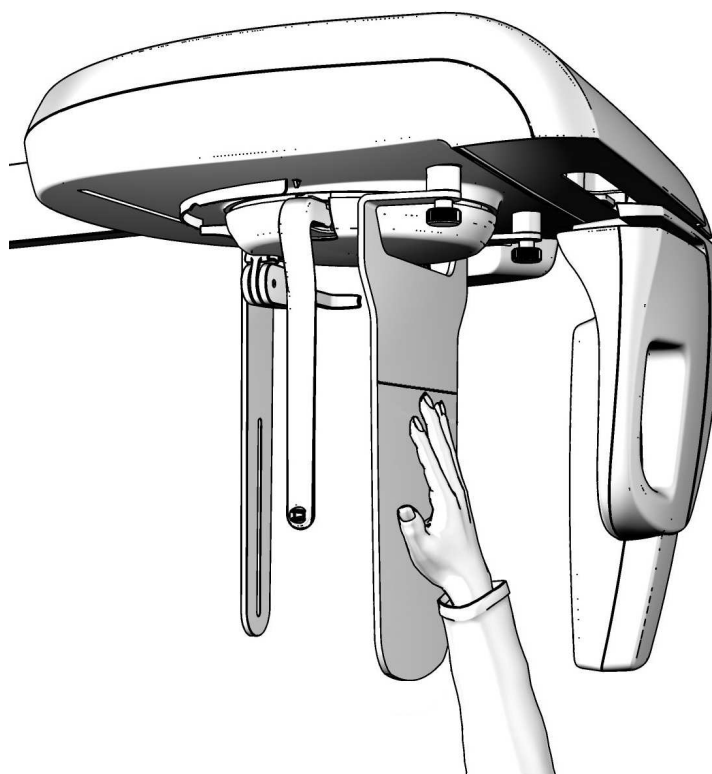

Figure 21
4. Position the patient's hand on the positioning support (Figure 21), so that the hand results between the sensor and the plate itself.